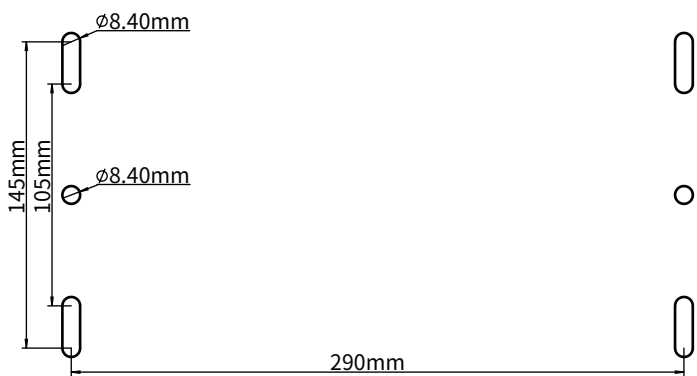

Figure 3-8
Step 4: Place the driver module on the proper position on the board and fix it with M8 screws (refer to figure 3-8 for the fixing holes).